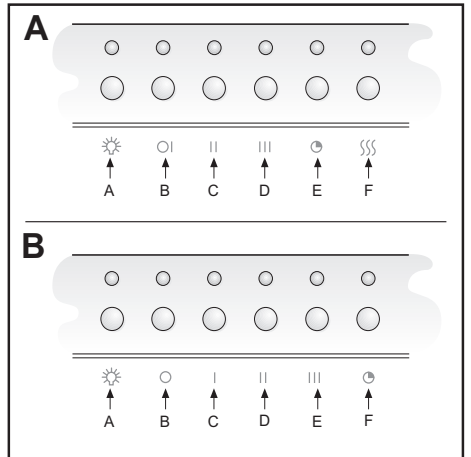

Fig.12
• COMMANDS: ELECTRONIC (Fig.12 A):